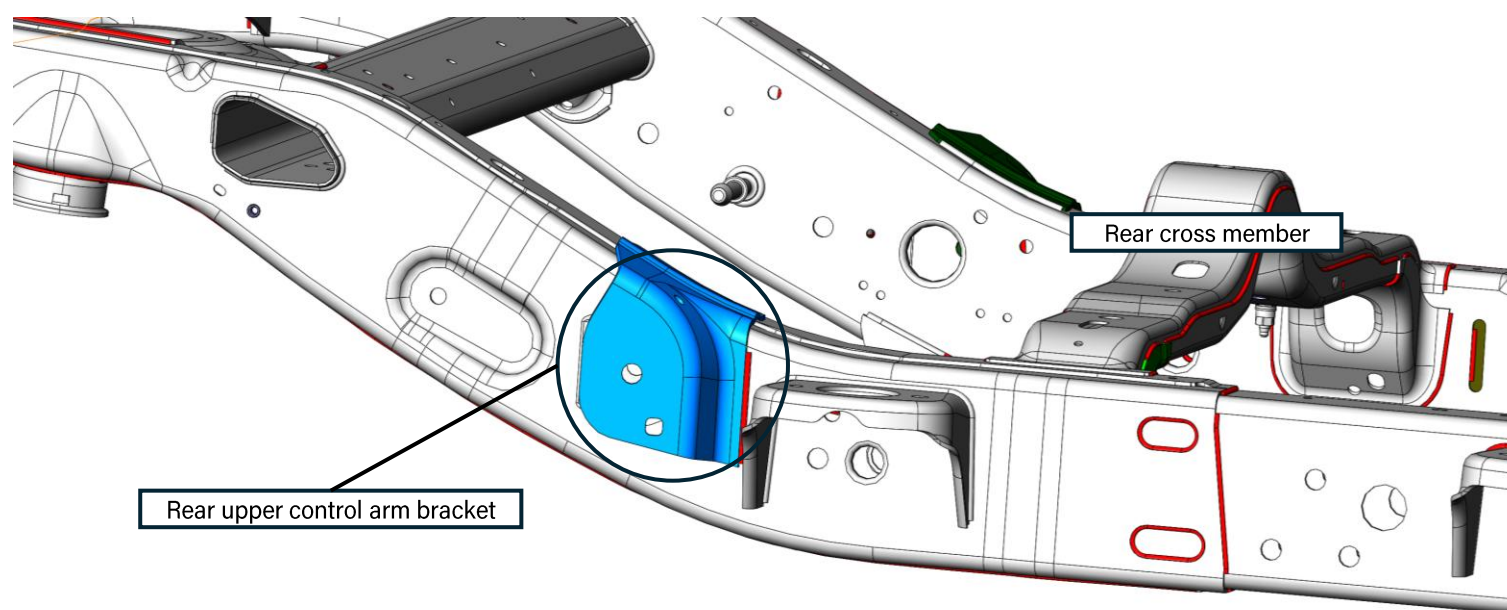

Figure 25: CAD model of original rear upper control arm bracket location (rear lower bracket already removed)
20. Remove both rear upper control arms and begin cutting off the upper control arm brackets from the frame. It is recommended to cut the bracket just below the weld and then grind the weld flat. Using a plasma torch may be easiest. Complete this step for both sides. See Figure 25 for the rear upper control arm bracket on the passenger side of the vehicle (highlighted in blue).